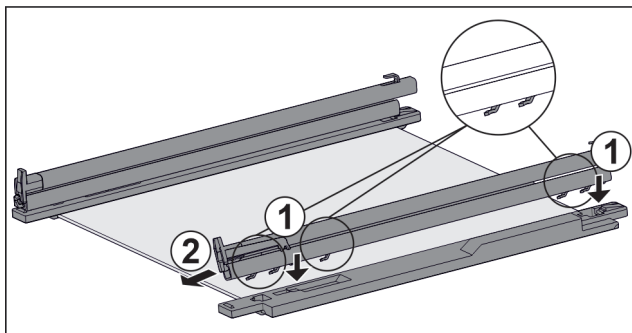

Fig. 120 Glass shelf with rails and retaining parts
- Place rail hooks onto the openings of the **left** retaining part. Fig. 120 (1)
- Push rail forwards. Fig. 120 (2)
- Place rail hooks onto the openings of the **right** retaining part. Fig. 120 (1)